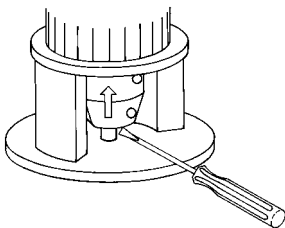

Fig. 13 Raising the coupling and the pump shaft
3. Raise the coupling and the pump shaft as far as possible (towards the motor) with a screwdriver or a similar tool so that the pump and motor shafts touch each other. See fig. 13.